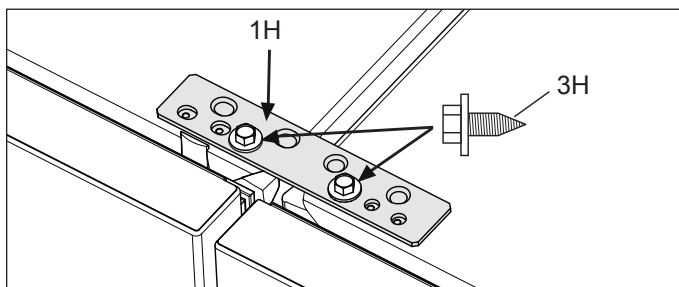

Figure 7
- c. Tie units together with the common mounting bracket at the front top with 2 screws in the inner 2 screw holes by using a $\frac{3}{8}$ " socket. (See Figure 7.)